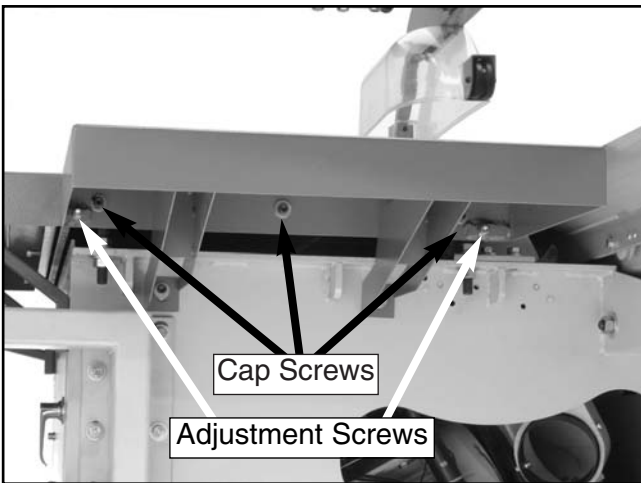

Figure 39. Small extension table installed.
- Position the small extension table over the holes on the cast iron table and secure it with the three cap screws that you removed in **step 2** (**Figure 39**). Note—*Get assistance positioning the table and holding it in place while installing.*
- Use the adjustment screws (**Figure 39**) under the extension table to level the top surface with the saw table.